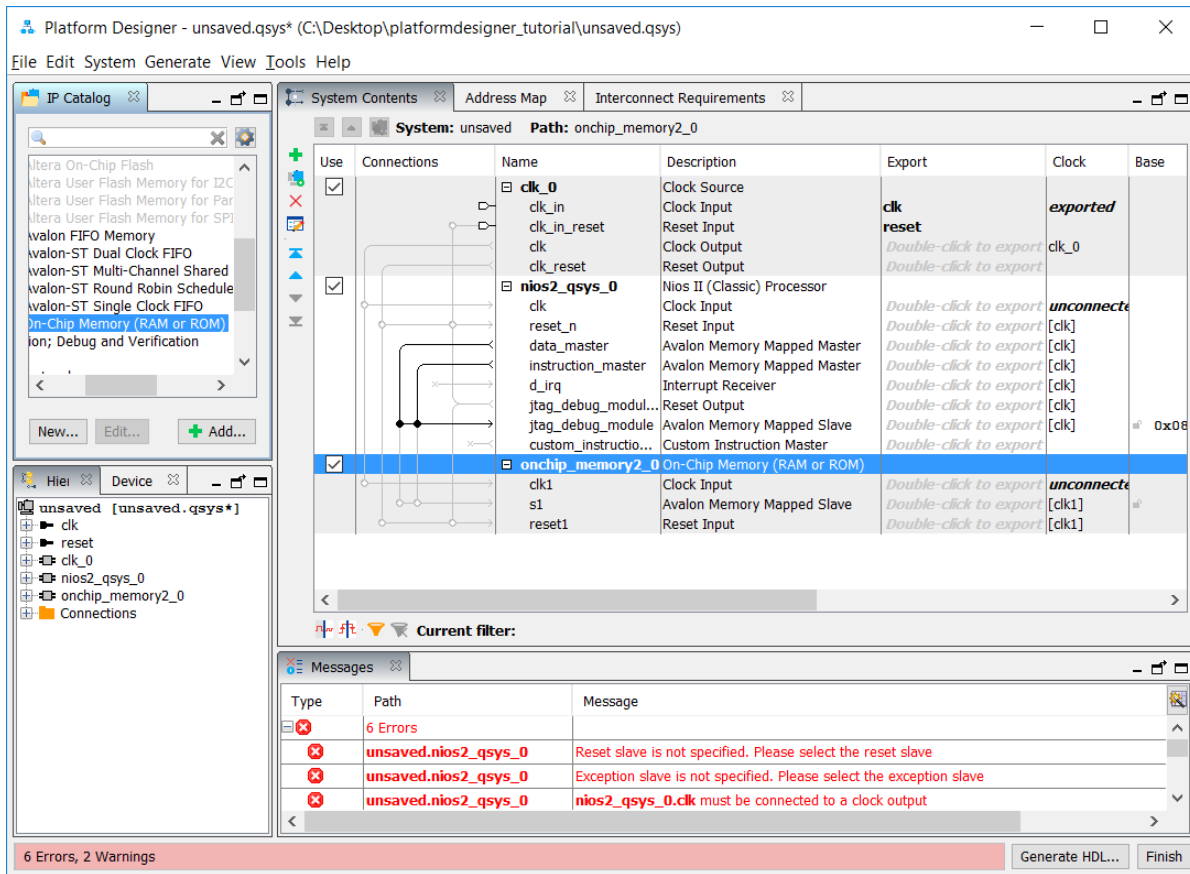

Figure 8. The on-chip memory included on a DE-series board.
- Click Finish, which returns to the System Contents tab as indicated in Figure 8
- Observe that while the Nios II processor and the on-chip memory have been included in the design, no connections between these components have been established. To specify the desired connections, examine the Connections area in the window in Figure 8. The connections already made are indicated by filled circles and the other possible connections by empty circles, as indicated in Figure 9.